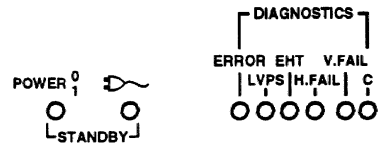

Figure 4-1. Rear Panel LEDs
**Symptom:** The projector will not turn on when **POWER** is pressed. All back panel lights are off. See Figure 4-1.